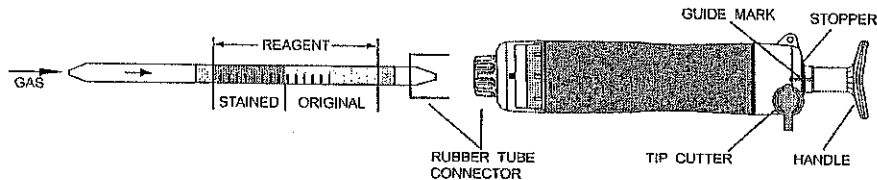

Fig.1
- ② Insert the detector tube into aspirating pump securely as shown in Fig.1. (Arrow mark shall point to the pump.)
- ③ Align the guide marks on the handle and stopper of the aspirating pump.
- ④ Pull the pump handle at full stroke until it locks and wait for 3 minutes or until the completion of sampling is confirmed with the flow indicator of the pump (See descriptions about the flow indicator in the instructions of the pump).
- ⑤ On completion of sampling, read the scale at the maximum point of the stained layer.
- ① Temperature; Correct the tube reading by following temperature correction table.